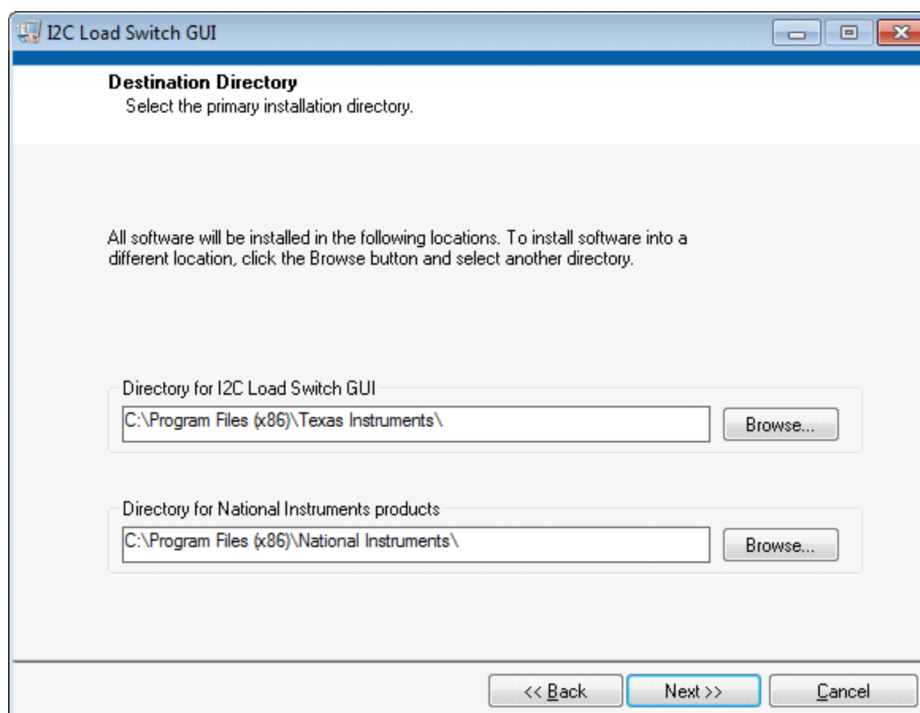

Figure 2. I²C Load Switch Application Installer
- (B) You should see a pop up window asking you to install the software click “Yes” and then you should see the window in Figure 2 pop up and click “Next” and agree to the terms and conditions in the installer.